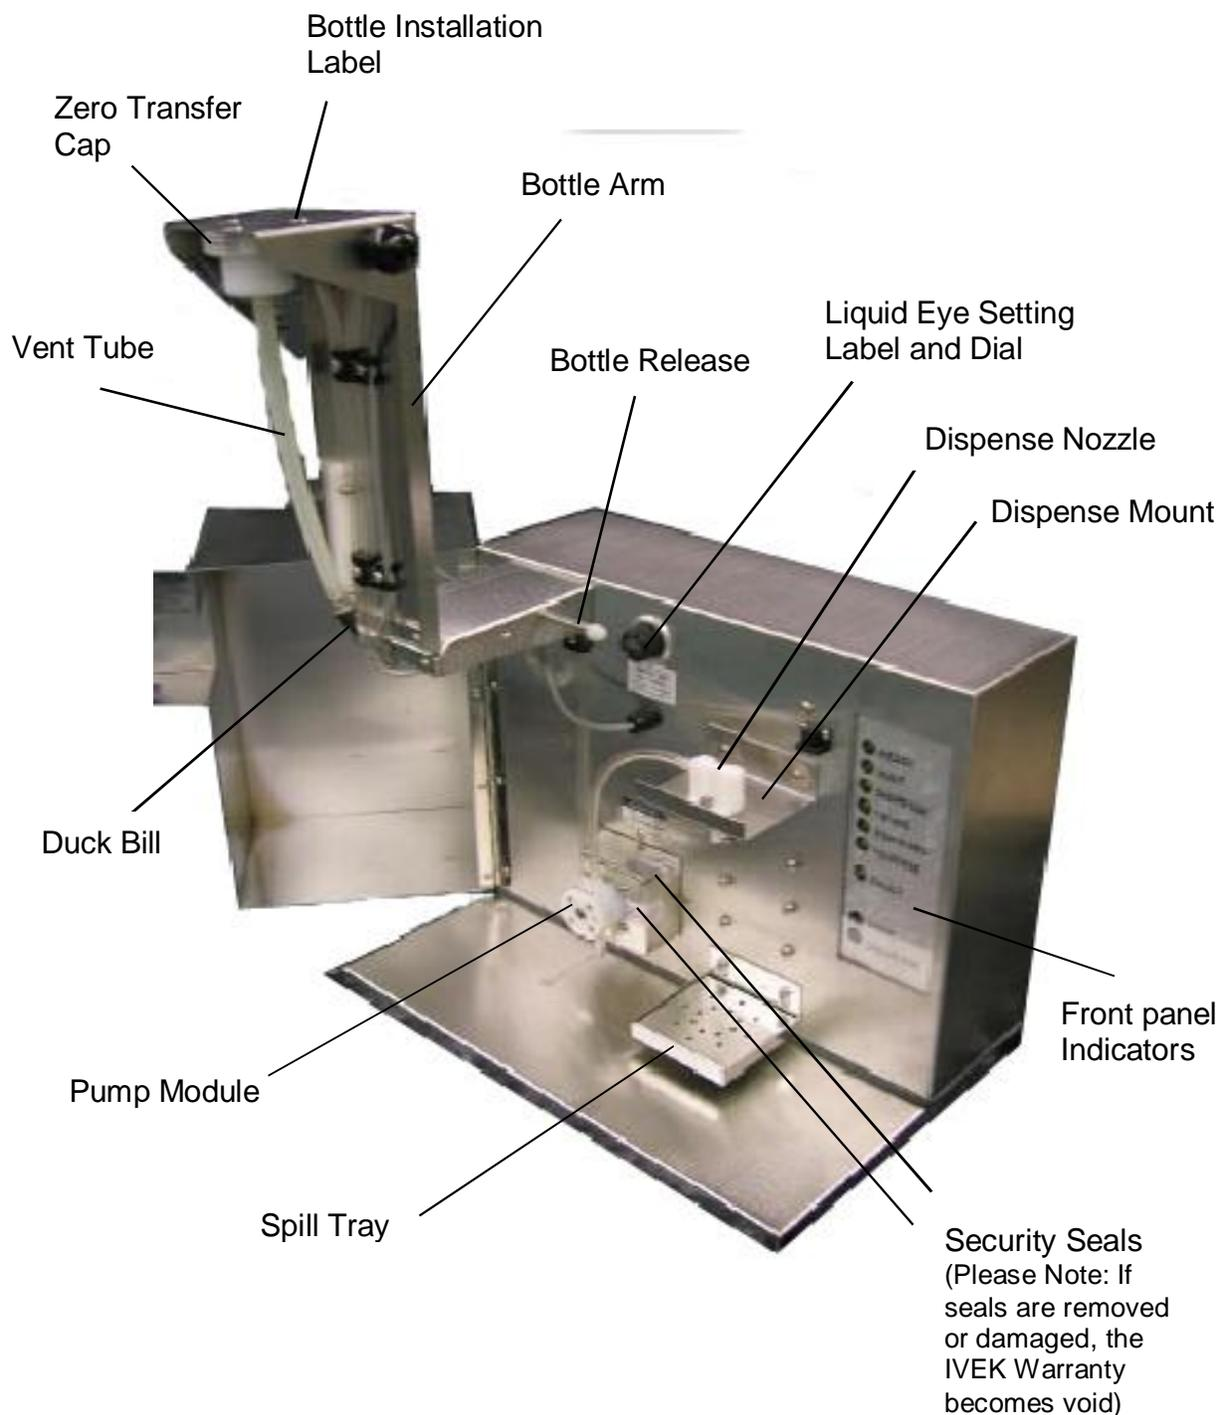

Figure 2.1 Front View
2.1.1 Front Panel Indicators (Refer to figure 2.1)